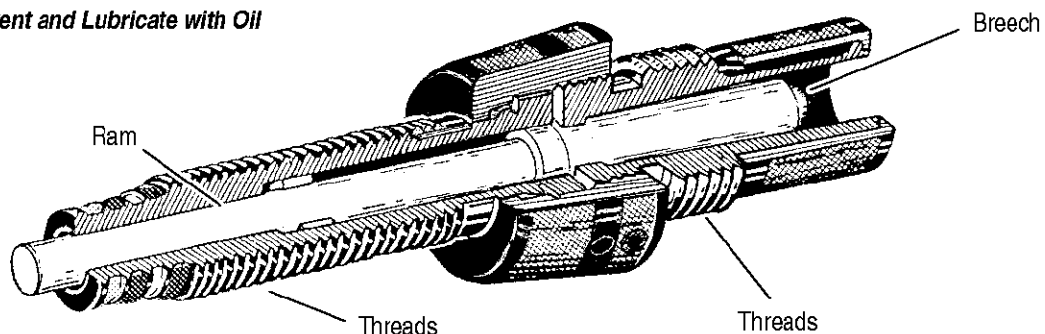

Figure 42
- Coat and lubricate threads, ram, and inside of breech (Figure 42).